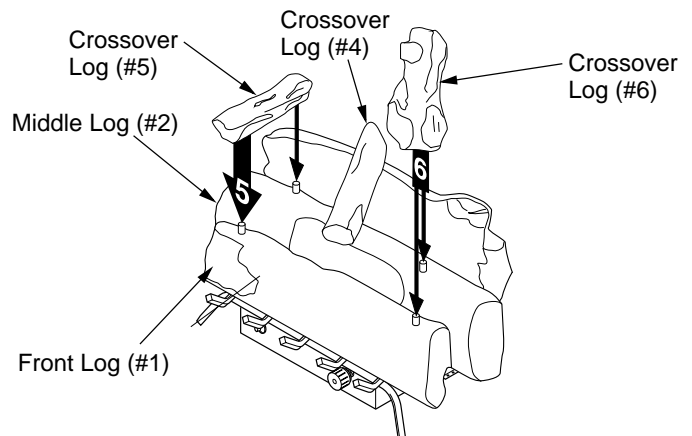
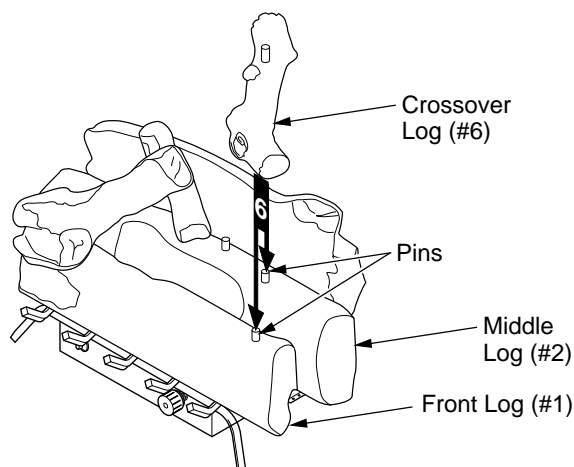

Figure 29 - Installing Crossover Log #5 and Log #6 (CCL3018PA/NA and CCL3018PTA/NTA Only)
Figure 30 - Installing Crossover Log #6 (CCL3930PTB/NTB Shown)
For CCL3018PA/NA and CCL3018PTA/NTA Only: Locate holes on the bottom of crossover log (#5). Slide the holes over the left pins on middle log (#2) and front log (#1). See Figure 29.
6. Locate holes on the bottom of crossover log (#6). Slide these holes onto the right pins located in middle log (#2) and front log (#1). See Figure 30 for CCL3924PTA/NTA or CCL3930PTB/NTB. See Figure 29, page 15, for CCL3018PA/NA or CCL3018PTA/NTA.